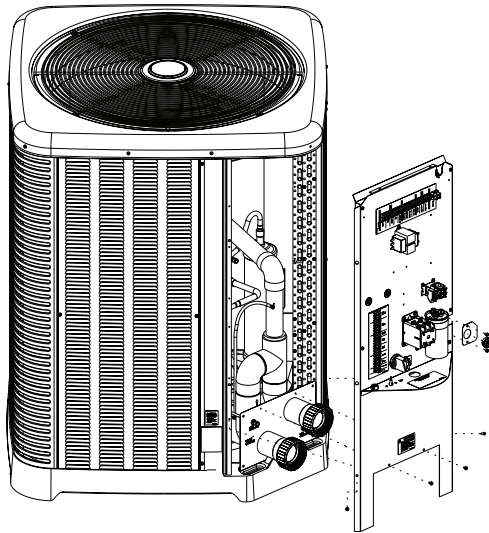

Fig. 11: Sheet Metal Screws to remove Junction Box Panel
5. Remove the 4 screws securing the junction box panel to the cabinet (1 each side and 2 by Inlet/Outlet water connections). See Fig. 11. Place the screws in the recessed cups in the molded base.